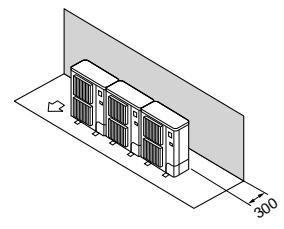

Fig. 2-9
① Obstacles at rear only (Fig. 2-9)